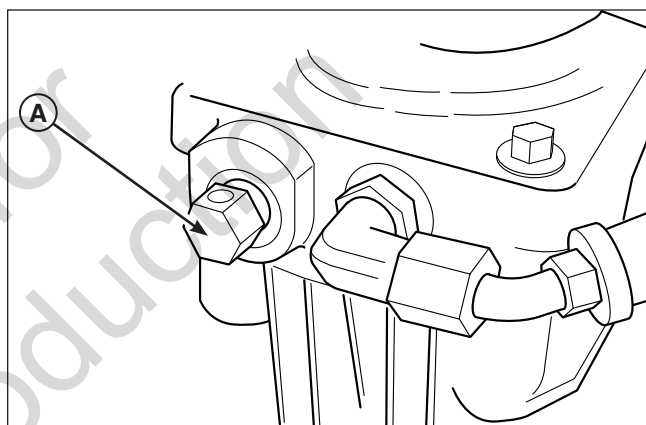

Figure 2. Hydraulic System By-Pass
2. To disengage the pumps (free-wheel position), turn the hydraulic release valves (**A, Figure 2**) located on the pumps COUNTER-CLOCKWISE a maximum of 2 full turns.